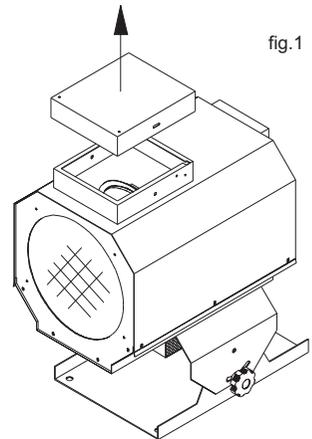

fig.1
- 1) Open the lamp cover located on the top of the lantern (see fig.1).